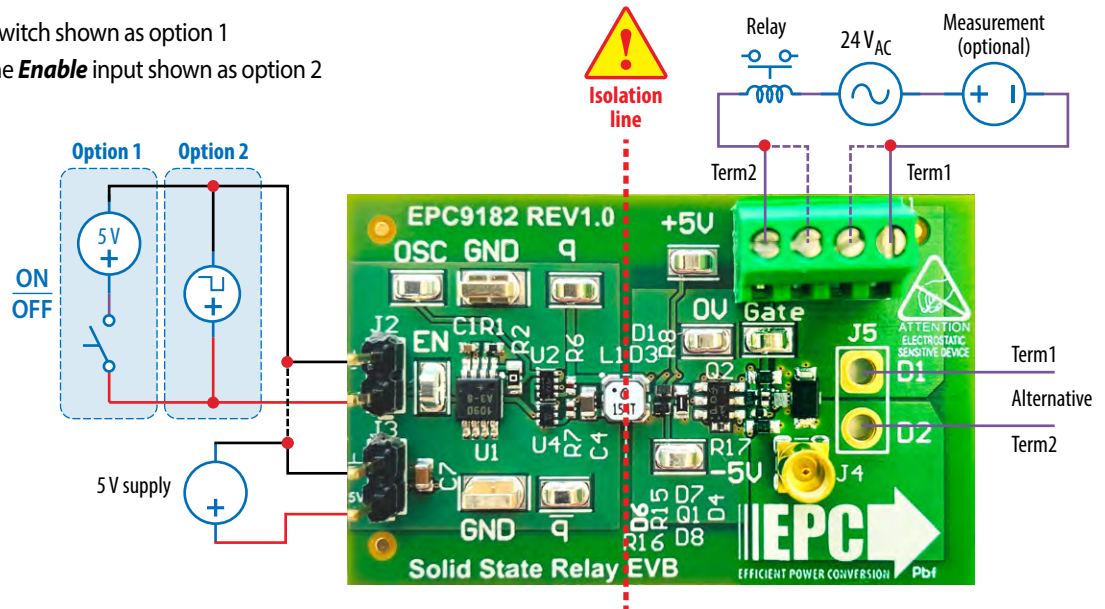

Figure 7: Power and signal connections to the EPC9182 evaluation board
Figure 7 shows the power and logic connections to the EPC9182 evaluation board. There are two options for the **Enable** signal:
1. With power off, connect an AC source (24 V_{AC}) and the mechanical relay (load) in series with the power terminals (D1 and D2), as shown in Figure 7.
2. With power off, connect either a 5 V source in series with a switch (Option 1 of figure 7) **or** a 5 V source with On/Off switch (Option 2 of figure 7) to the **Enable** connector (J2) (**note polarity**).